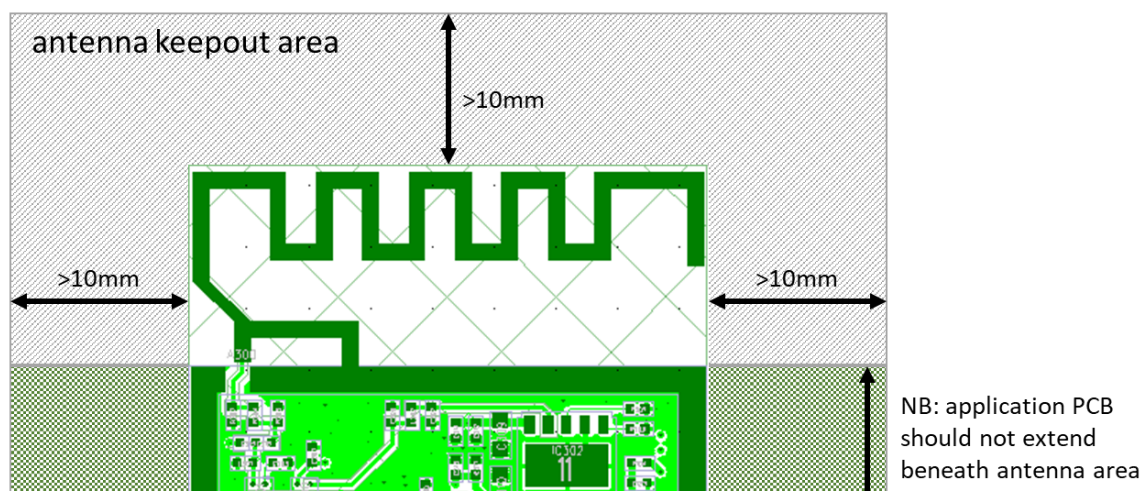

Figure 8: Keep-out Areas
- The application PCB may not extend underneath the antenna area (see Figure 8)
- No metal objects should be placed in the vicinity of the antenna (see Figure 8)